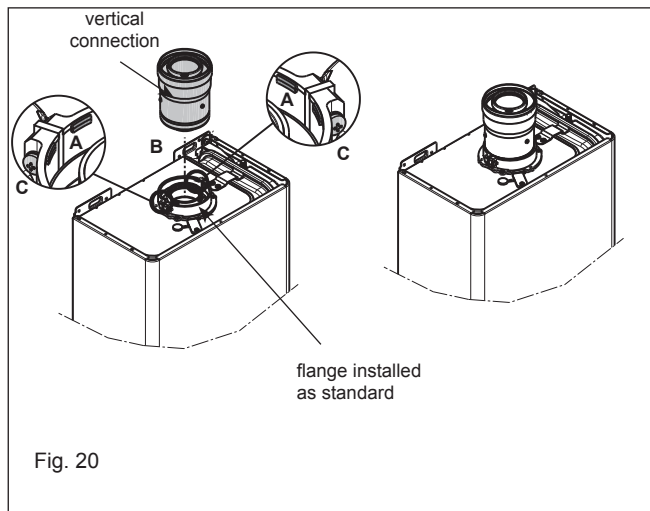

Fig. 20
NOTE (Fig. 20): The appliance incorporates a 'click-fit' flue connection. Ensure that both screws 'C' on the 'click-fit' have been slackened off. Ensure that the connector is correctly aligned with the 'click-fit' and insert it into the 'click-fit' until it clicks into position (this is when the tabs at points 'A' are located in the groove of the vertical flue connector). Both screws (C) should now be tightened.